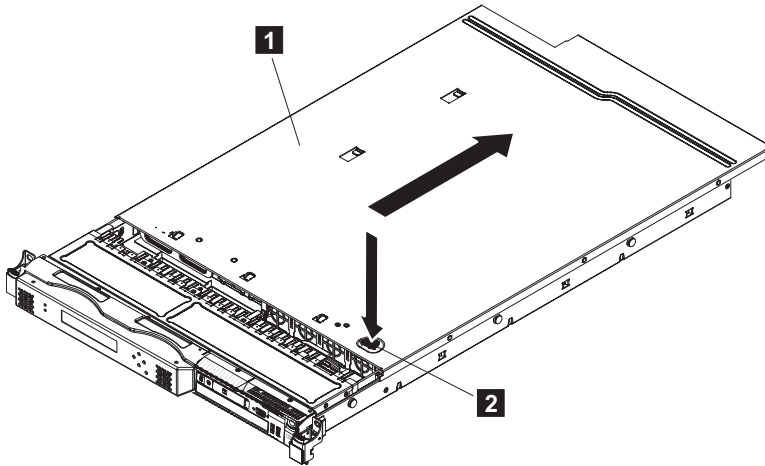

Figure 64. Removing the SAN Volume Controller 2145-CG8 or 2145-CF8 cover
5. Press down firmly on the blue tab (**2** in Figure 64) that secures the cover (**1**) and slide the cover toward the rear of the node until the cover disengages the chassis.